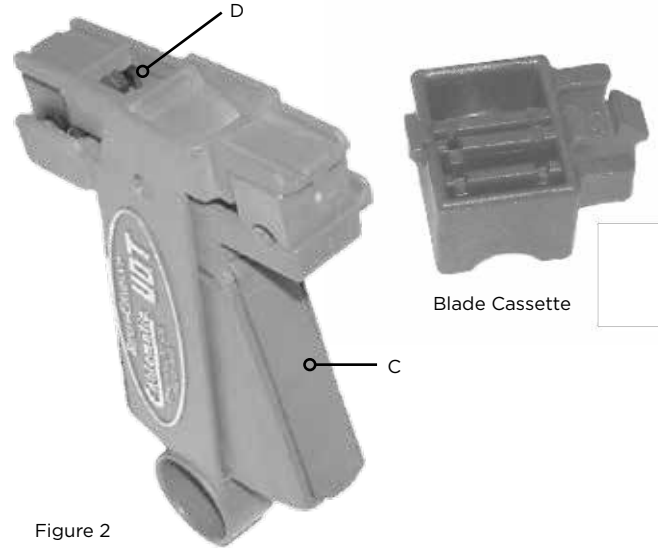

Figure 2
• In time, the blade that cuts through the braid and shielding will become dull and result in an “unacceptable” trimmed cable end. This will be apparent when you need to trim any long strands of braid. The UDT cassettes are easily replaced. Blade cassettes are stored in the moveable handle compartment. They can be accessed by opening the “compartment door” (Figure 2-C) and removing the appropriate blade cassette. The dull blade cassette can now be removed from the tool by pushing the tab (D) with your finger allowing the blade cassette to slide out. Insert the replacement blade cassette into the tool body and allow it to “snap” into position. This would be a good time to order replacement blade cassettes for the tool storage compartment. Care must be exercised in handling due to the sharpness of the blades in the cassettes.